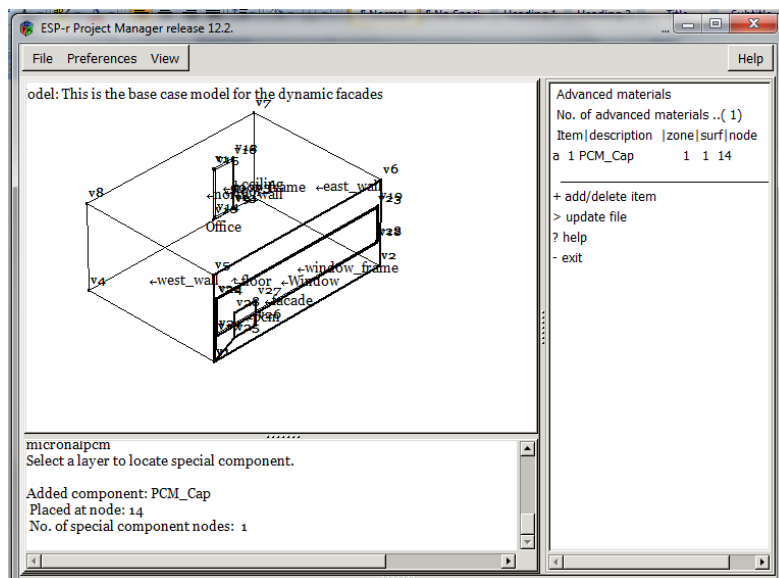

Figure 15
**Step 15:** The phase change material will now appear in the list of active materials and is now available to be used in simulations (figure 15).